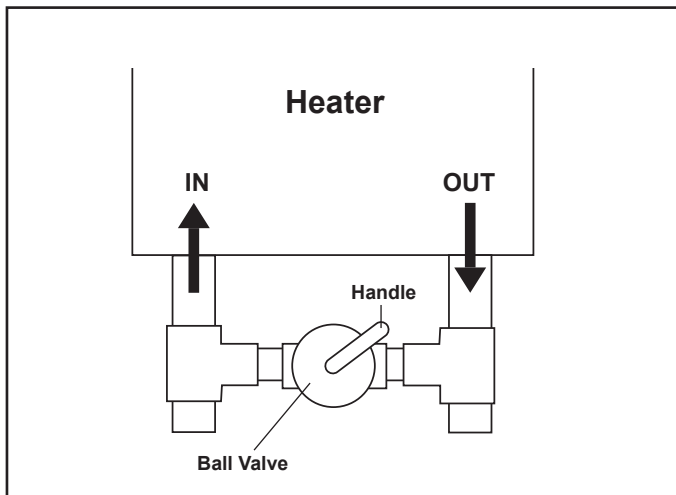

Figure 13. Install Manual Bypass Valve
1. Connect ball valve between water inlet and outlet (Figure 13).